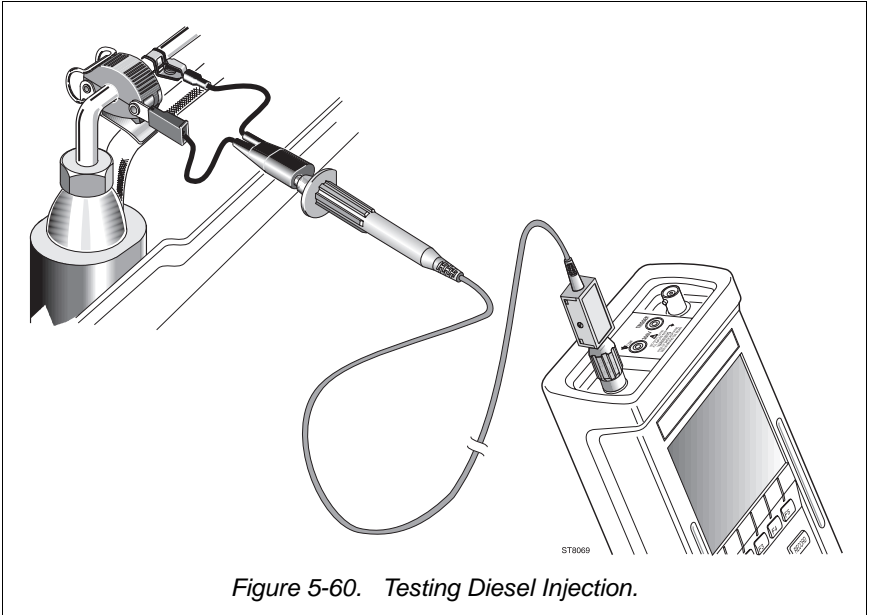

Figure 5-60. Testing Diesel Injection.
- ⑥    SELECT
- ⑦    SELECT
- ⑧ Connect the test leads as displayed by the test tool's Connection Help and shown in Figure 5-60.
- ⑨ OK  Starts the Diesel Injector test.